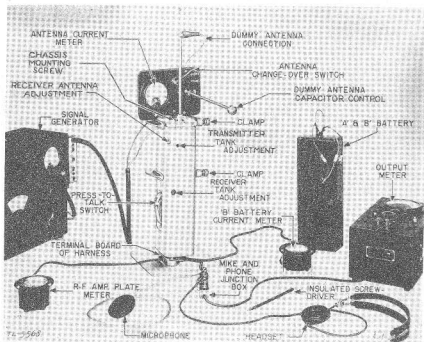

FIGURE 14.—Test equipment IE-15-A—set up.
65. Use of test case CS-81-(*).—Since the tuning adjustment points of the radio set are inaccessible because of their locations on the chassis being covered by the case or housing, a special housing is required to contain the chassis while making these adjustments. (See fig. 14.) Test case CS-81-(*), used for this purpose, is similar to a chassis housing except for the holes that have been provided to permit access to the chassis adjustments. This permits tuning the set under conditions identical to those of normal operation. The tuning adjustments should not be made on the set without the test case housing around the chassis, because the set would become detuned when inserted into its regular housing. This detuning would result from the additional capacitance introduced into the circuit by the housing.